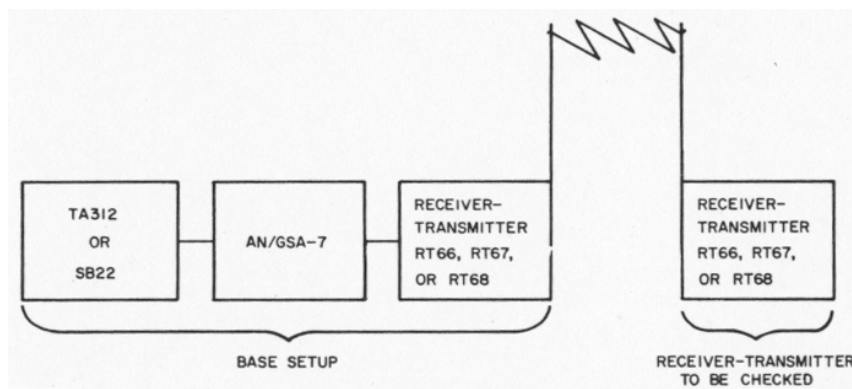

Figure 39. A system using the AN/GSA-7.
(1) Assemble the equipment and prepare for operation as in the system illustrated in figure 39.